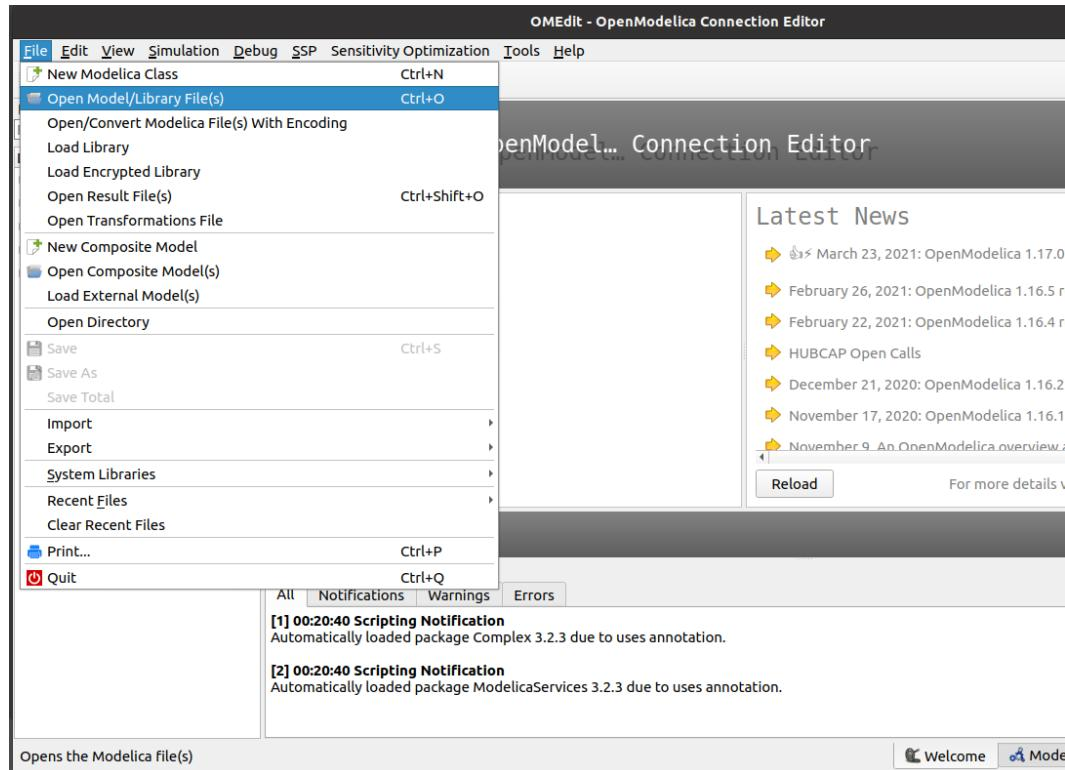

Figure 3.31: Opening a model in OMEdit
The files or models in OpenModelica have ‘.mo’ extensions. Though there are several ways to simulate or run an OpenModelica model, we will execute the models by utilizing the user interface of OMEdit. To open a model in OMEdit, go to the menu bar of OMEdit and click on File -> Open Model/Library File(s), as shown in Fig. 3.31. Then, select the desired model (with ‘.mo’ extension) and click Open. The names of tabs in this book have been mentioned according to OpenModelica 1.17.0. You might observe a bit of difference in these names while working with other versions of OpenModelica.
2. After launching, we have to load OpenModelica-Arduino toolbox. To do so, go to the menu bar of OMEdit. Click on **File** and then click on the **Open Model/Library File(s)** option as shown in Fig. 3.31.